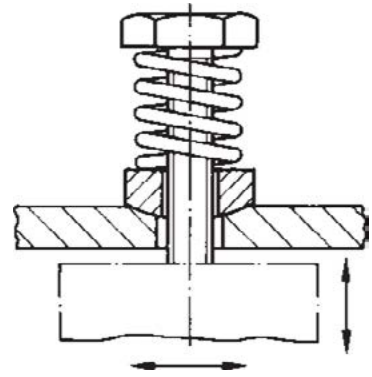

Fig. 2: Ideal fixing for group of magnets
b) Every holding solenoid should be springmounted below a transverse rail to dampen the stroke acceleration so that in the case of uneven bearing surfaces the difference between the loads carried by the individual magnets does not vary too greatly (Fig.2).